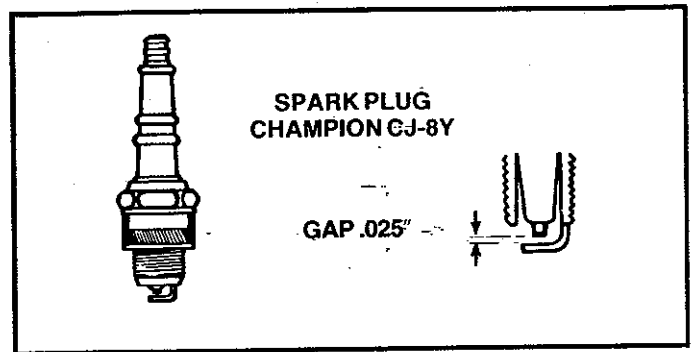

Figure 40
- Set the gap between the electrodes to .025 using a wire or flat gauge. Figure 40.